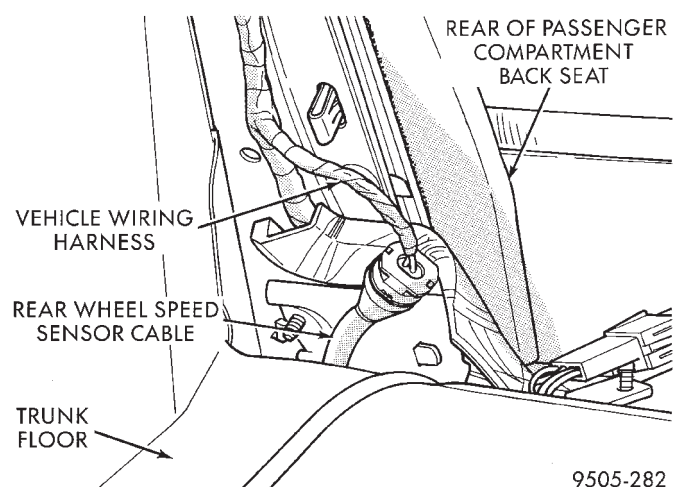
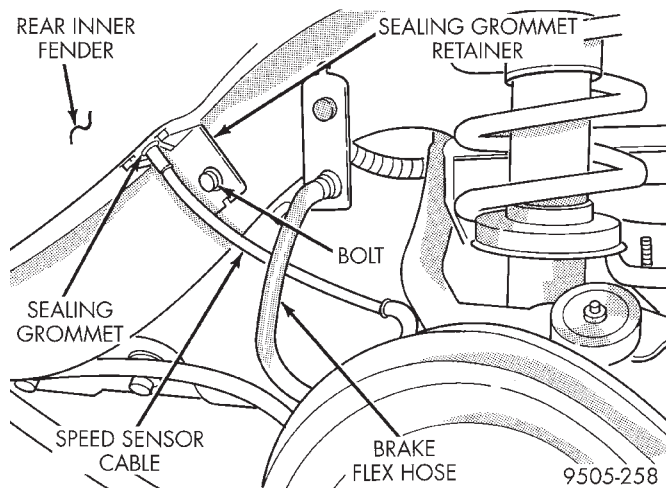
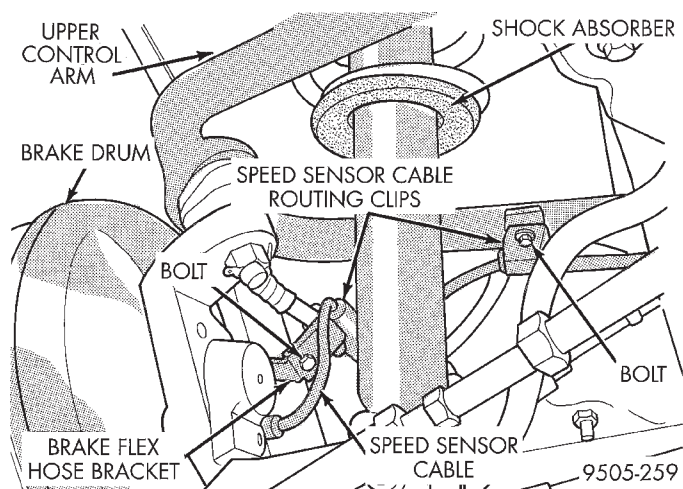

Fig. 38 Rear Speed Sensor Cable Connection To Vehicle Wiring Harness
Fig. 39 Rear Speed Sensor Cable Attachment To Body
Fig. 40 Speed Sensor Cable Attachment To Rear Suspension
(1) Unplug the speed sensor cable connector from the vehicle wiring harness (Fig. 38). **Access for speed sensor cable to vehicle wiring harness connection is in the trunk of the vehicle.**
(2) Raise vehicle on jack stands or centered on a frame contact type hoist. See Hoisting in the Lubrication and Maintenance section of this manual, for the required lifting procedure to be used for this vehicle.
(3) Remove the rear tire and wheel assembly from the vehicle.
(4) Remove speed sensor cable sealing grommet retainer (Fig. 39) from the rear frame rail of the vehicle. Then remove speed sensor cable sealing grommet and cable from hole in body of vehicle.
(5) Remove speed sensor routing clips from the rear upper control arm and brake flex hose routing bracket (Fig. 40).
(3) Install speed sensor cable routing clips (Fig. 40) on the brake flex hose bracket and the bracket on the upper control arm. Install and securely tighten the routing clip attaching bolts.
(4) Install connector end of speed sensor cable through hole in inner fender and into trunk of vehicle.
(5) Install speed control sealing grommet into hole in inner fender. Install the sealing grommet retainer and attaching bolt (Fig. 39) on rear frame rail. Securely tighten retainer attaching bolt.
(6) Install the tire and wheel assembly on vehicle.
(7) Lower vehicle.
(8) Plug speed sensor cable connector into vehicle wiring harness (Fig. 38). **Install foam sleeve back over the speed sensor cable to vehicle wiring harness connection to prevent connector from rattling against body of vehicle.**
(9) Road test vehicle to ensure proper operation of the base and ABS systems.